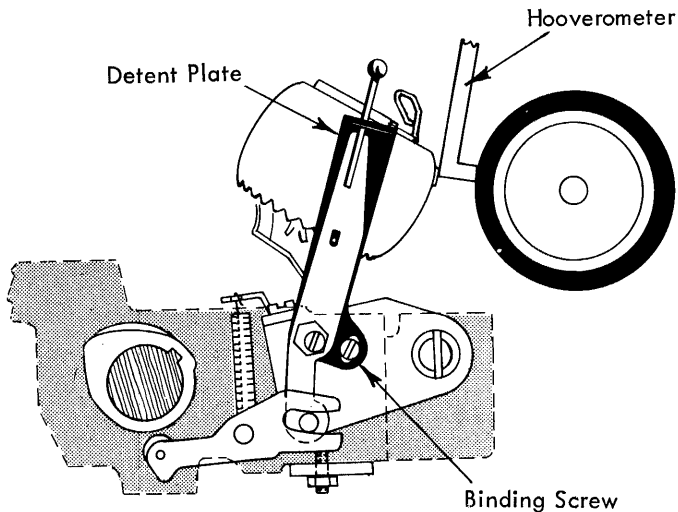

FIGURE 142.14 Powered Travel
- a. **Powered Travel** - With the cycle shaft latched at rest and the impression control lever set at position 5 and the copy control lever set at 5 (all the way back), loosen the binding screw and move the detent plate forward or backward until a clearance of .250" exists between the platen and the center of the "home" character (Fig. 142.14). This clearance may be measured with the foot of the Hooverometer which is approximately .250". When measuring the adjustment, remove the tilt ring play by depressing the typehead lightly toward the front of the machine.
- a. **Powered Travel** - With the cycle shaft latched at rest and the impression control lever set at 4 and the copy control lever all the way forward, loosen the binding screw and move the detent plate forward or back until a clearance of .250" exists between the platen and the center of the "home" character (Fig. 142.14). This clearance can easily be measured with the foot of the Hooverometer which is approximately .250". When measuring the adjustment, remove the tilt ring play by depressing lightly on the rear of the tilt ring.